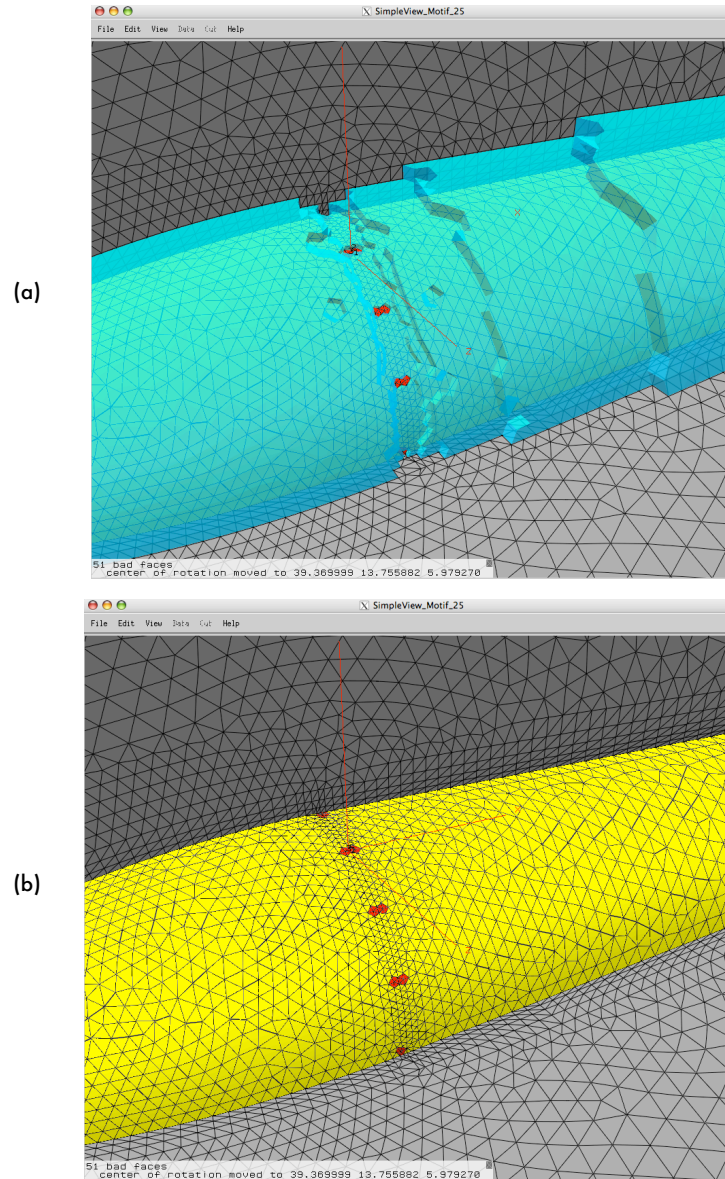
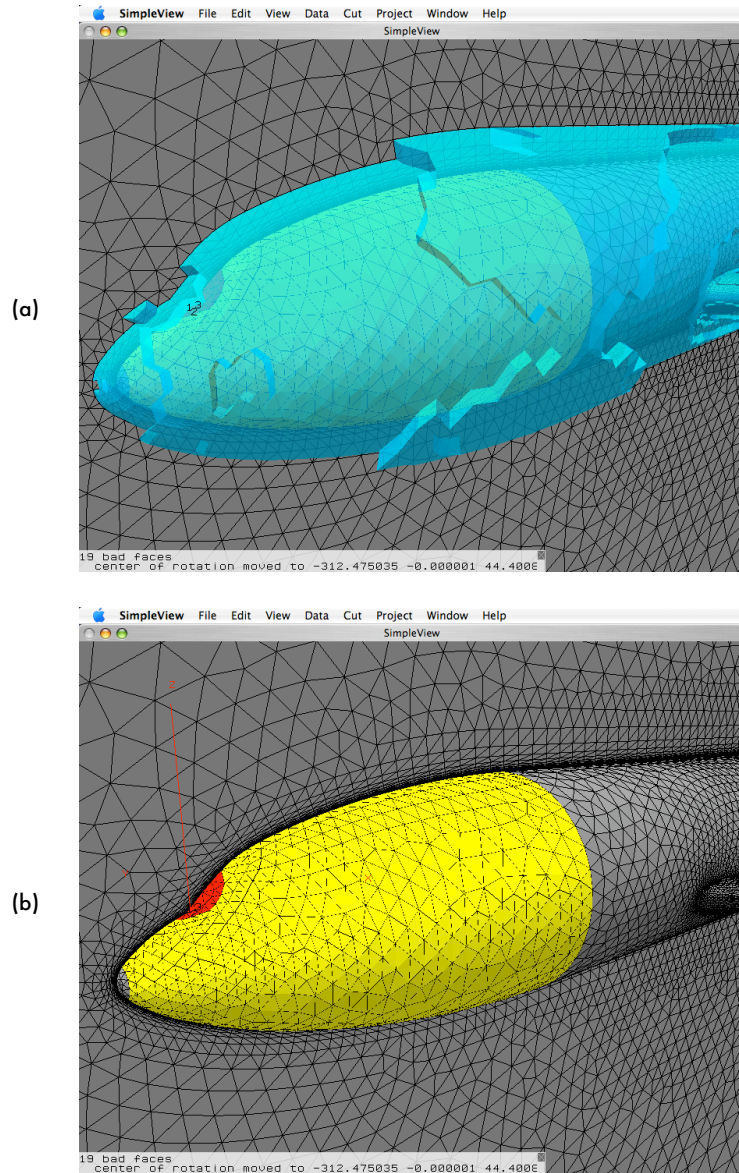

Figure 2.4.2 Display of “zero-layer faces” (shown in red) :
Figure 2.4.3 Display of "zero-layer faces" (shown in red) :
1. zero-layer faces occur because VGRID's criteria for generating layers on a given face was not met : this occurs if the first-layer spacing ("Delta1") is on the order of the "inviscid" spacing in the surface grid. The "Delta1" parameter (specified in GridTool) corresponds to the height of the first layer of advancing-layers cells that VGRID will generate on every surface face lying on a patch having the "viscous surface" boundary condition. Since VGRID stops generating advancing-layer type cells when the height of those cells matches the height of "advancing front"/inviscid type cells (as dictated by the background grid sources), VGRID will not generate *any* layers at all on a given face if the very first cell height (as dictated by Delta1) already matches the inviscid spacing at that location. This scenario is shown in Figure 2.4.2; the zero-layer faces appear (in red) as "holes" in the current front. This occurs more commonly in "wall function" type grids which have larger Delta1 values compared to their "sublayer grid resolved" or "full viscous" counterparts. Typically, if this scenario occurs, subsequent runs of VGRID and POSTGRID are likely to be able to complete the grid; however, since these subsequent runs only use the advancing-front method, the grid that is generated off of the zero-layer faces will not exhibit the ordering present in the advancing-layers portion, and can thus lead to a degradation in the accuracy of the flow solution in that area of the configuration.
Note that, as shown in Figure 2.4.2, **SimpleView** will automatically highlight any patches on which such "zero-layer faces" are found by displaying them in yellow.
triangle will have one or more missing layers in the vicinity of the folded surface triangles. This is an insidious type of error, as even a detailed visual examination of the surface mesh will not always show any obvious problems. Furthermore, this type of error is less likely to result in a completed grid (i.e., POSTGRID usually fails to complete the grid, as POSTGRID can only generate advancing-front type cells, and it is difficult to generate the kind of narrow, thin cells found within the advancing-layers portion of the grid). With **SimpleView**, you are at least made aware of the problem, and the location(s) at which it occurs. In these cases, you should return to GridTool and determine the source of the anomaly in the surface mesh (checking the details of the surface patch on which the problem triangles lie is always a good first step). This scenario is shown in Figure 2.4.3; the zero-layer faces are visible (in red) through the current front. In order to assist you in finding all the locations at which **SimpleView** has found such “zero-layer faces,” **SimpleView** automatically highlights any patches containing zero-layer faces by displaying them in yellow. It is then a straightforward matter of locating the zero-layer faces themselves, which **SimpleView** displays in red, as shown in Figures 2.4.2 and 2.4.3.